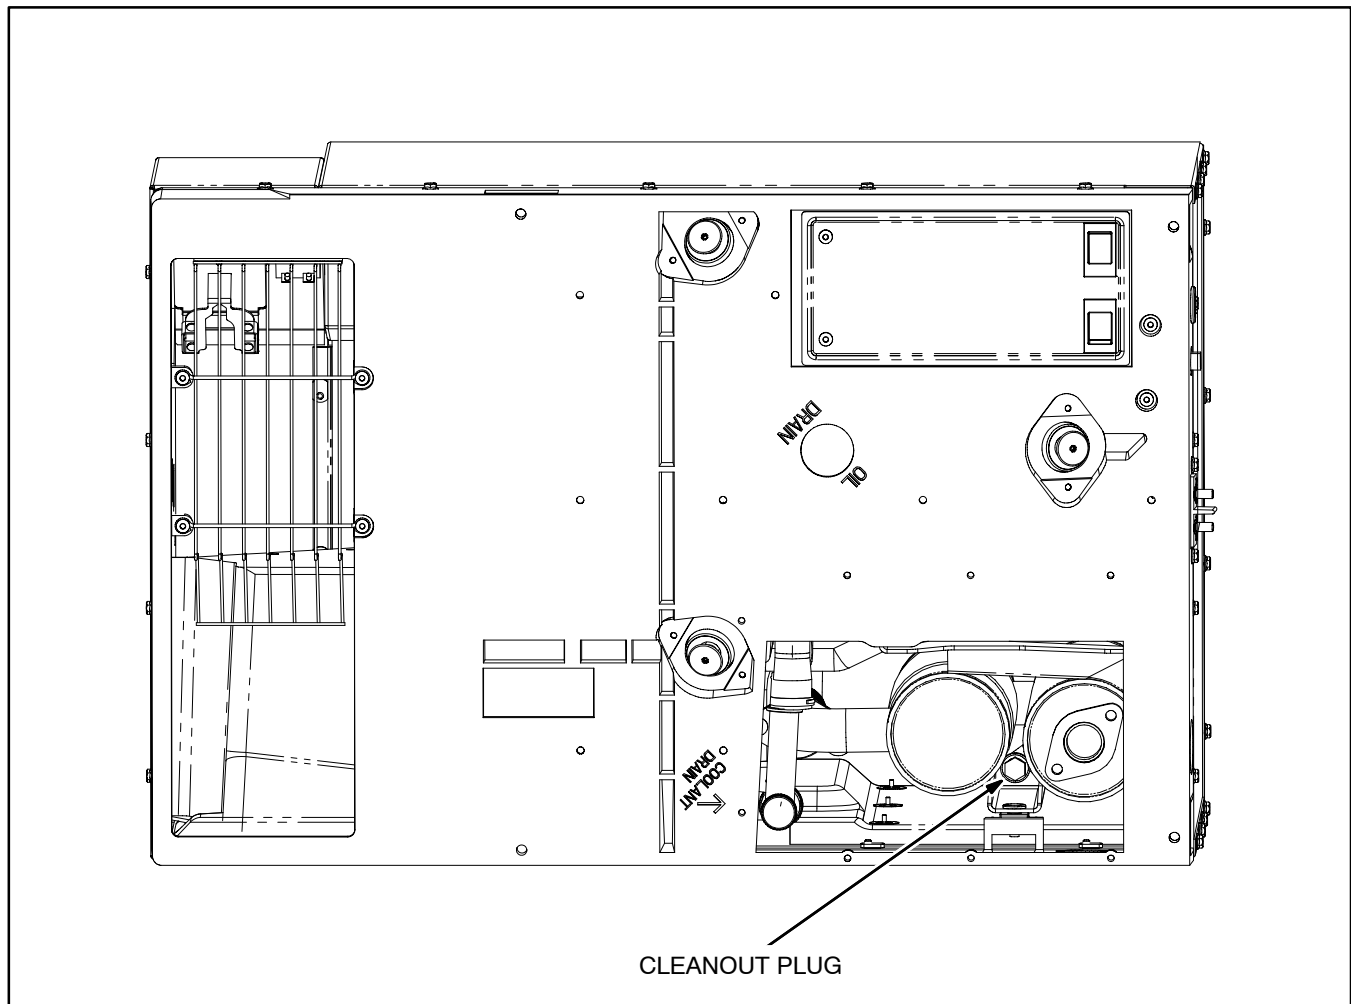

FIGURE 8. SPARK ARRESTOR CLEANOUT PLUG
1. Remove the cleanout plug from the muffler (Figure 8).